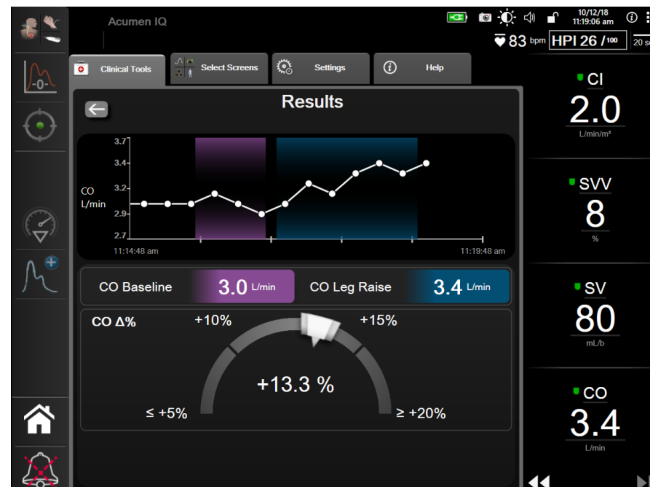

Figure 14-12 Fluid Responsiveness Test – Results Screen
- 9 At the conclusion of the test, the change in the selected **Parameter** value as a response to the fluid challenge will be displayed. See Figure 14-12. Touch the return icon to perform another test, or the home icon to return to the main monitoring screen.
- 9 At the conclusion of the test, change in the selected **Parameter** value as a response to the fluid challenge will be displayed. See Figure 14-12. Touch the return icon to perform another test, or the home icon to return to the main monitoring screen.